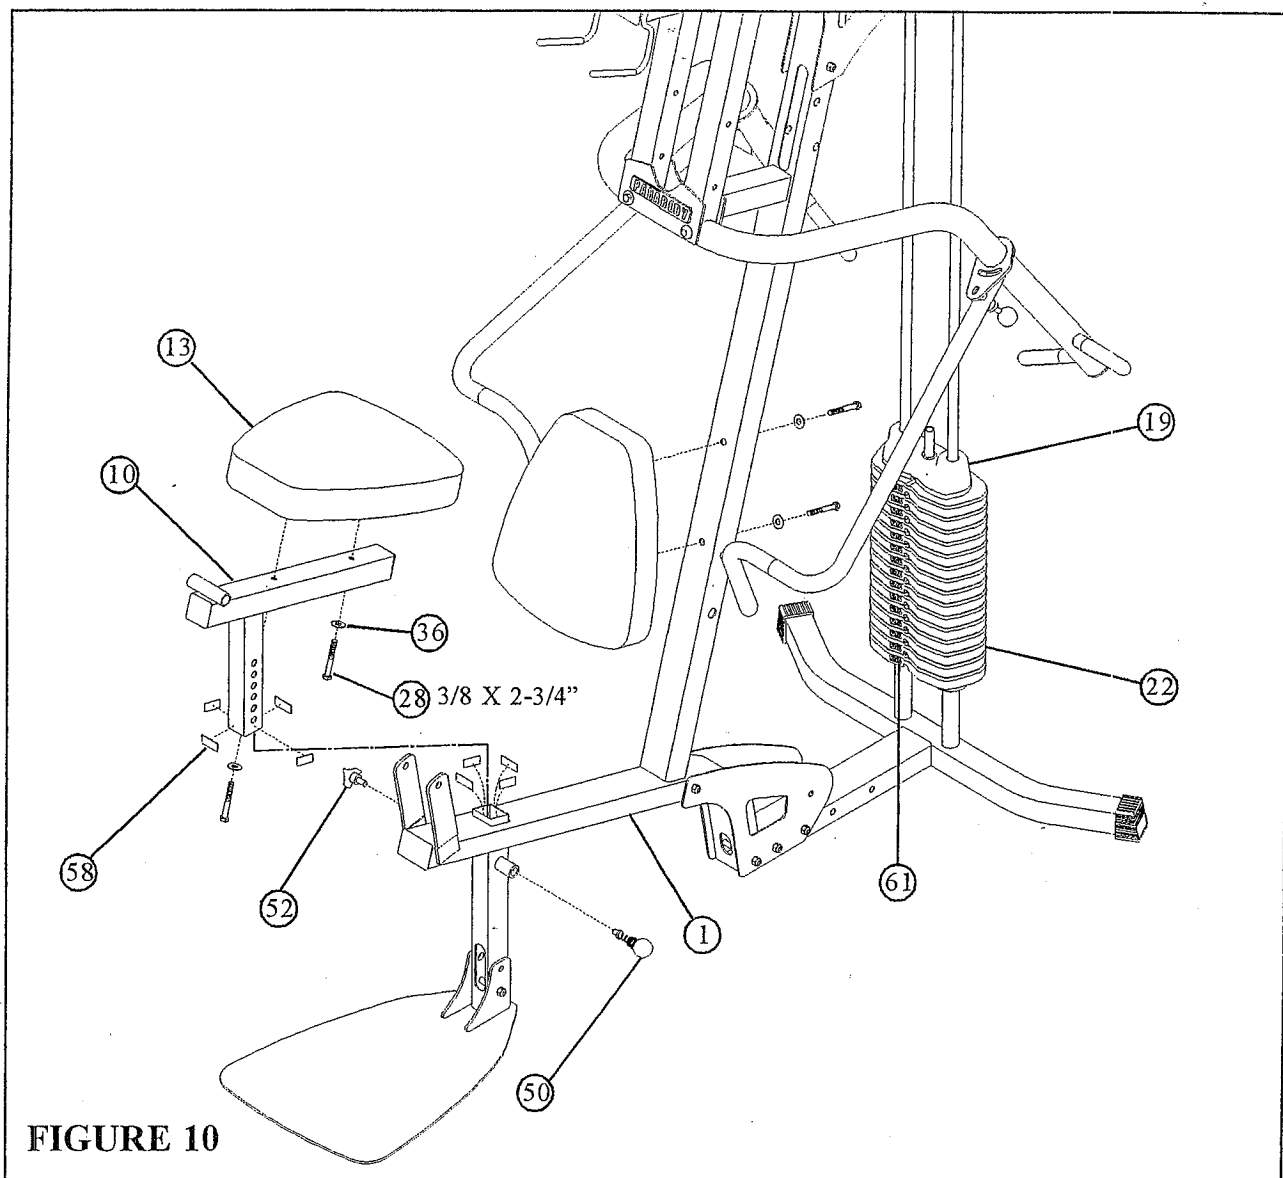

FIGURE 10
- Apply WEIGHT STACK LABELS (61) to WEIGHTS (22) and HEAD PLATE (19) as shown in FIGURE 10. Begin with number one at the HEAD PLATE (19) with larger numbers in consecutive order towards bottom of weight stack.
- Apply four PARAGLIDES (58) to the **INSIDE** of the tube of FRAME (1) as shown. Apply the remaining four PARAGLIDES (58) to the **OUTSIDE** and **FLUSH TO BOTTOM** of tube located on SEAT ADJUSTMENT (10)
- Securely assemble one SEAT PAD (13) to the SEAT ADJUSTMENT (10) using two 3/8 X 2-3/4" BOLTS (28) and two 3/8" WASHERS (36) as shown.
- Securely assemble one SEAT PAD (13) to the FRAME (1) using two 3/8 X 2-3/4" BOLTS (28) and two 3/8" WASHERS (36) as shown.
- Gently insert SEAT ADJUSTMENT (10) into tube located on FRAME (1)